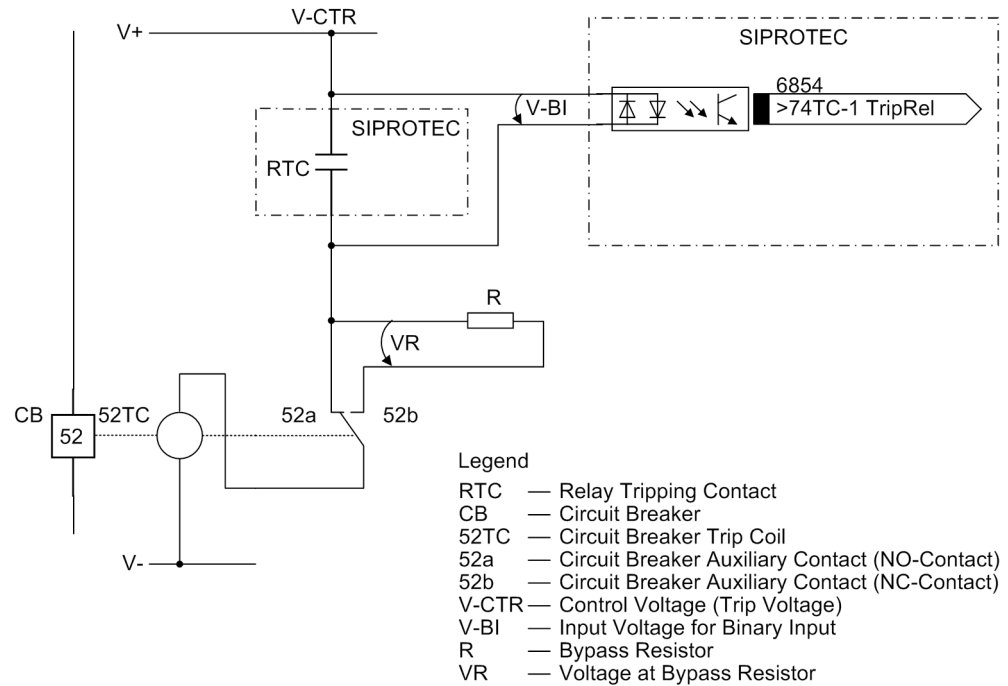

Figure 3-2 Trip circuit supervision with one binary input - Example for trip circuit 1
If one binary input is used, a bypass resistor R must be used (refer to Figure 3-2). This resistor R is connected in series with the second circuit breaker auxiliary contact (Aux2), to also allow the detection of a trip circuit failure when the circuit breaker auxiliary contact 1 (Aux1) is open, and the command relay contact has reset. The value of this resistor must be such that in the circuit breaker open condition (therefore Aux1 is open and Aux2 is closed) the circuit breaker trip coil (TC) is no longer picked up and binary input (BI1) is still picked up if the command relay contact is open.